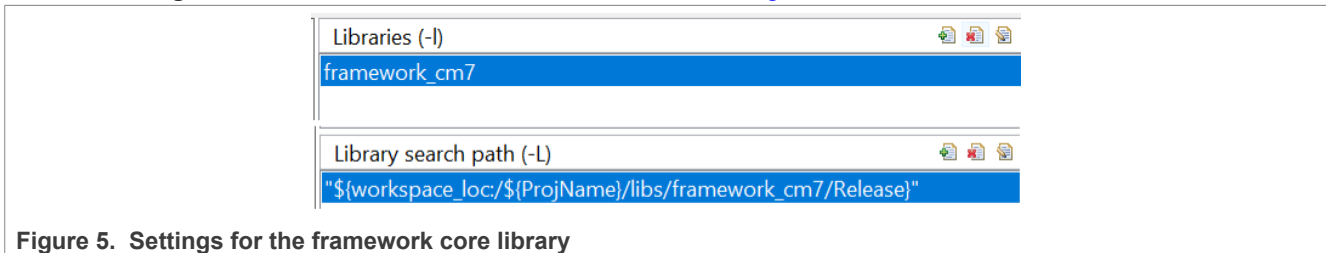

Figure 5. Settings for the framework core library
- Add the library and library search path in **Project > Properties > C/C++ Build > settings > Tool Settings > MCU C++ Linker > Libraries**, as shown in Figure 5.